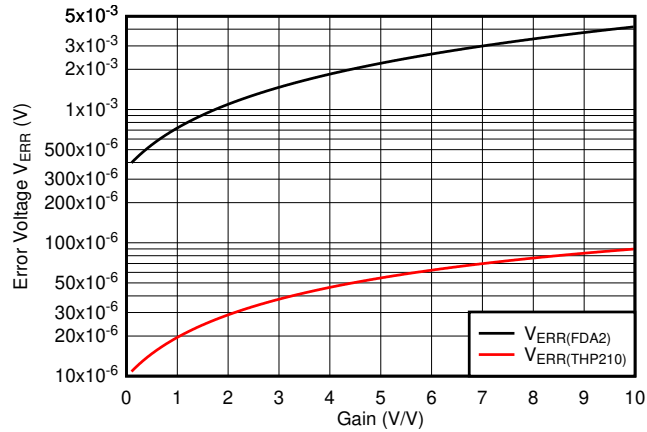
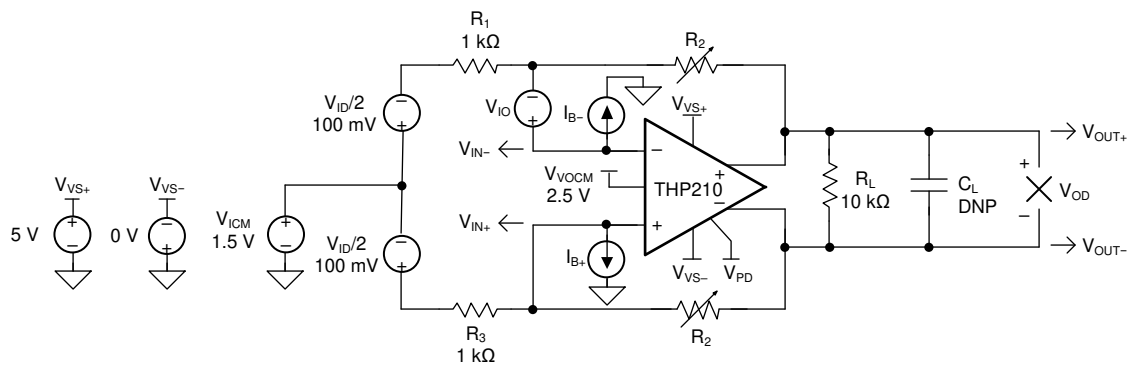

图 9-1. TINA-TI™ Software Simulation of DC Error Voltage at Different Gain Settings (Variable  $R_2$ )
图 9-2. FDA DC Error Model
The THP210 super-beta input device features extremely-low input bias current, trimmed low input offset voltage, and the lowest offset drift over the full temperature operating range. These features allow the device to produce a negligible initial error band at 25°C, but also exceptional robust behavior over temperature. The red curve in 图 9-1 showcases a simulation of the total dc error voltage at 25°C versus different gain configurations based on the application configuration shown in 图 9-2.
- Circuit configuration as shown in 图 9-2